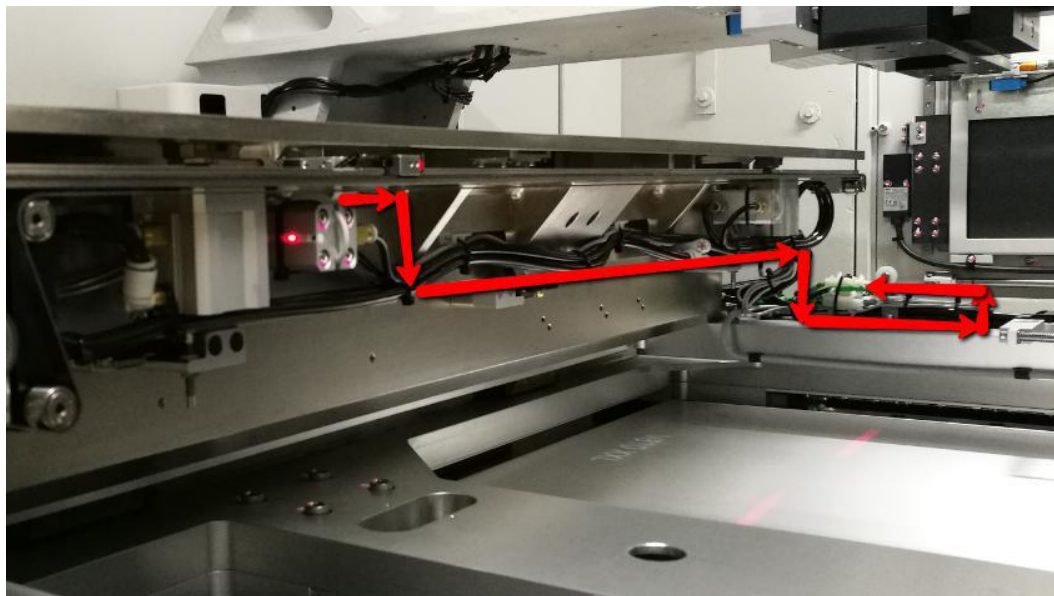

Figure 33 Pip In Reed sensor Routing
4. Route Right PIP In Reed sensor by following sensor routing as shown in Figure 33 below. Apply necessary cable ties.